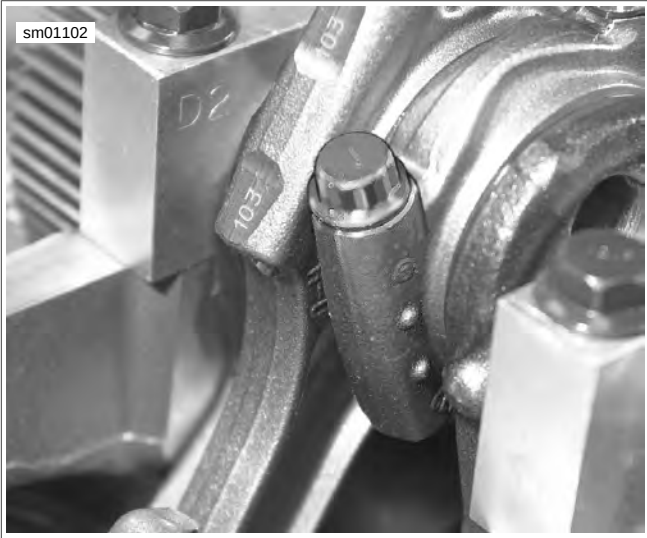

Figure 3-98. Connecting Rod Orientation
2. See Figure 3-98. Note the casting bumps on the connecting rods and caps. The rear cylinder must have the bumps toward the water pump side and the front cylinder toward the cam drive side.